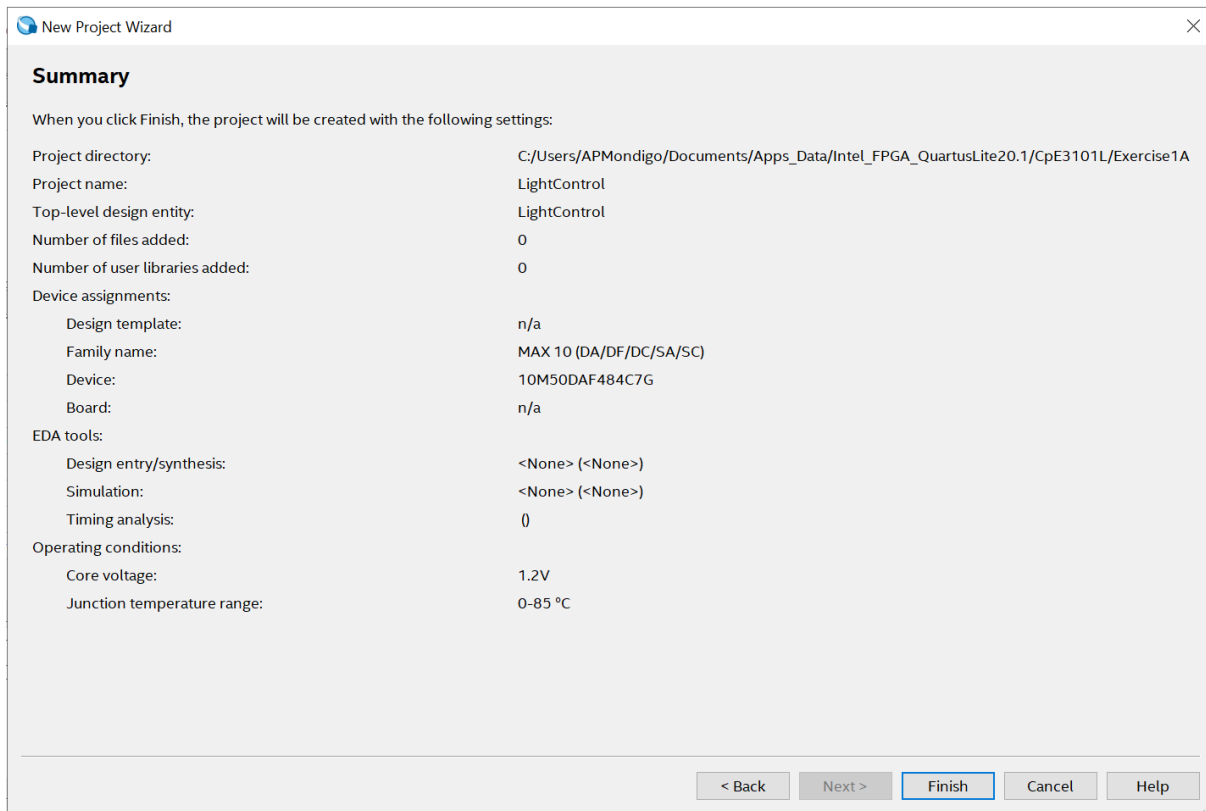

Figure 7. Summary of Project Settings
6. A summary of chosen settings will be shown in the next window, as displayed in Figure 7. Press **Finish**.
- **Project Settings Summary**, shown after creating new project (such as in Figure 7)